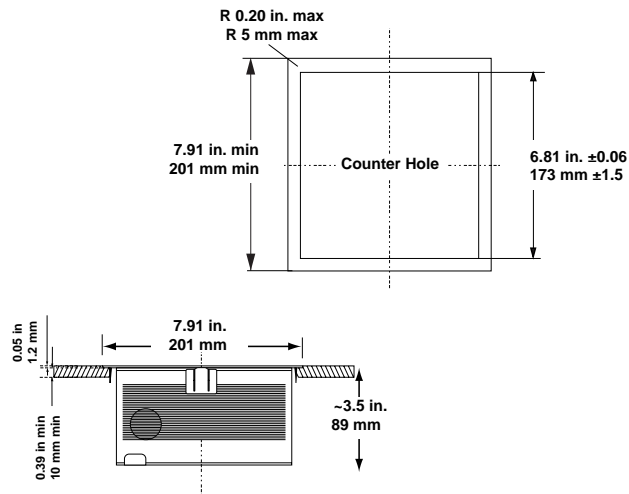

Figure 1-10 Symbol LS7808 Option B
1. On the counter top, measure two concentric squares: an inside square of 6.81 in. (173 mm) and an outside square of 7.91 in. (201 mm) (Figure 1-10).